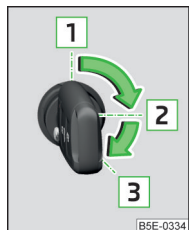

Fig. 134
Positions of the vehicle key in the ignition lock » Fig. 134
- › Turn key to position **1** » Fig. 134 on page 120.